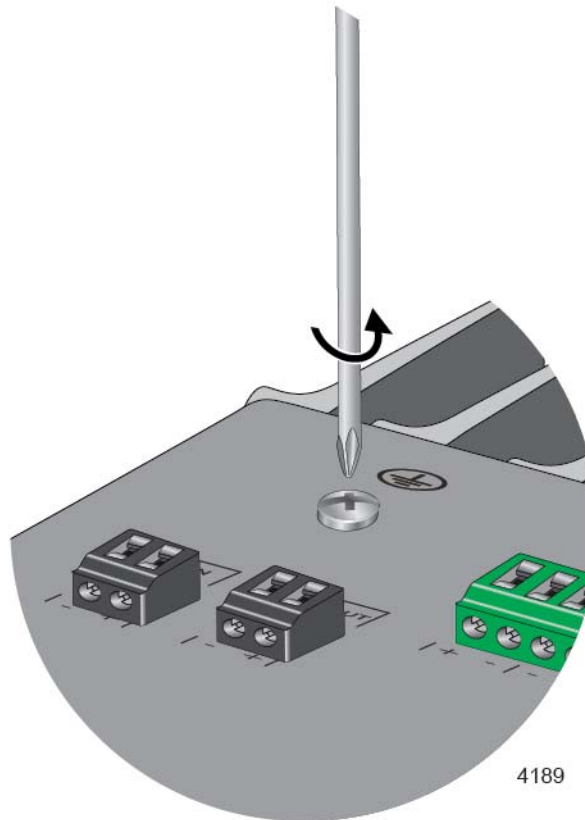

Figure 31. Loosening the Grounding Screw
2. Loosen the grounding screw several turns with a #2 Phillips-head screwdriver. Refer to Figure 31 on page 85.